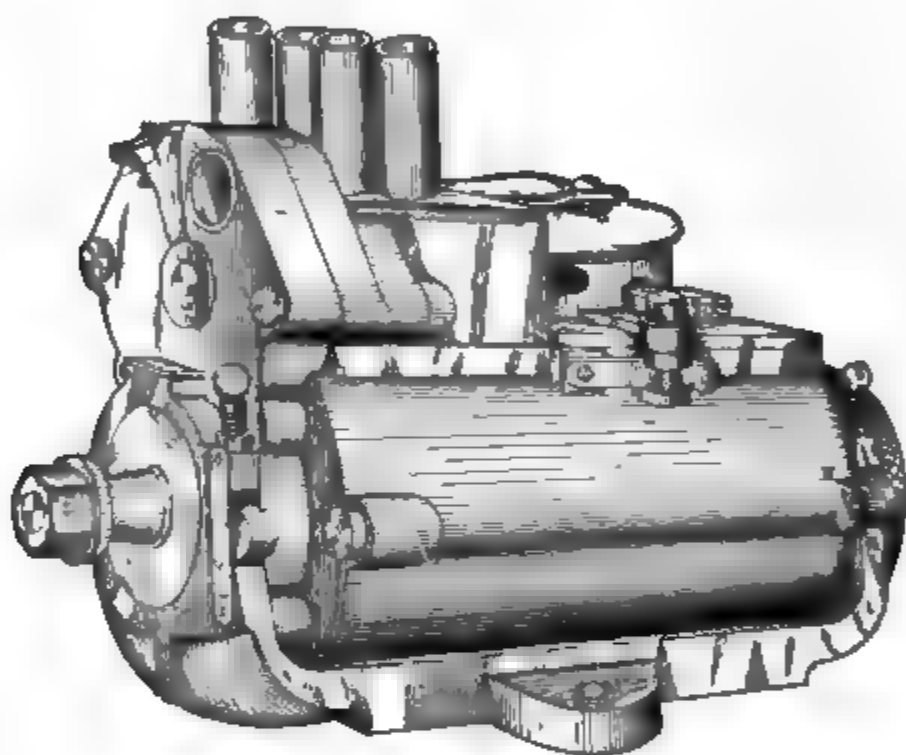
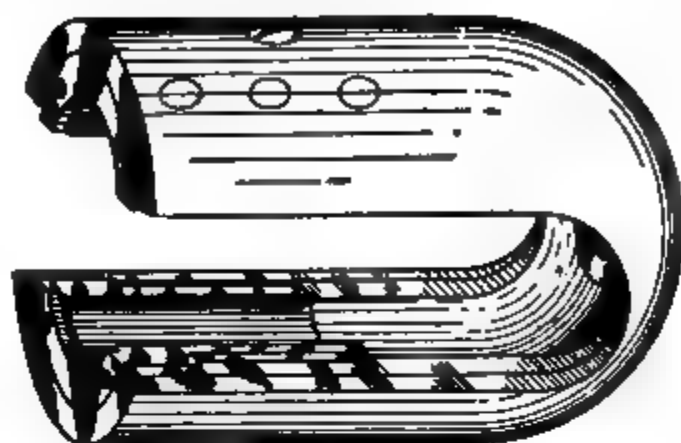

Fig. 96. Mea Magneto in Trunnion Mounting
Fig. 99. Bell-Shaped Magneto of Men
*Mea Method of Advancing Spark.* Doubtless the most ingenious method of taking care of the necessity for advancing the spark has been developed in the Mea magneto, shown in Fig. 96. Instead of being of horseshoe form, as in the Bosch and Nilmelior magnetos, shown in Figs. 97 and 98, it is bell-shaped, as shown in Fig. 99. The entire magneto is carried in a trunnion mounting so that the field magnets may be turned to the same extent that the contact breaker is moved to give the necessary advance, thus insuring that the circuit will be broken with the armature in the same relative